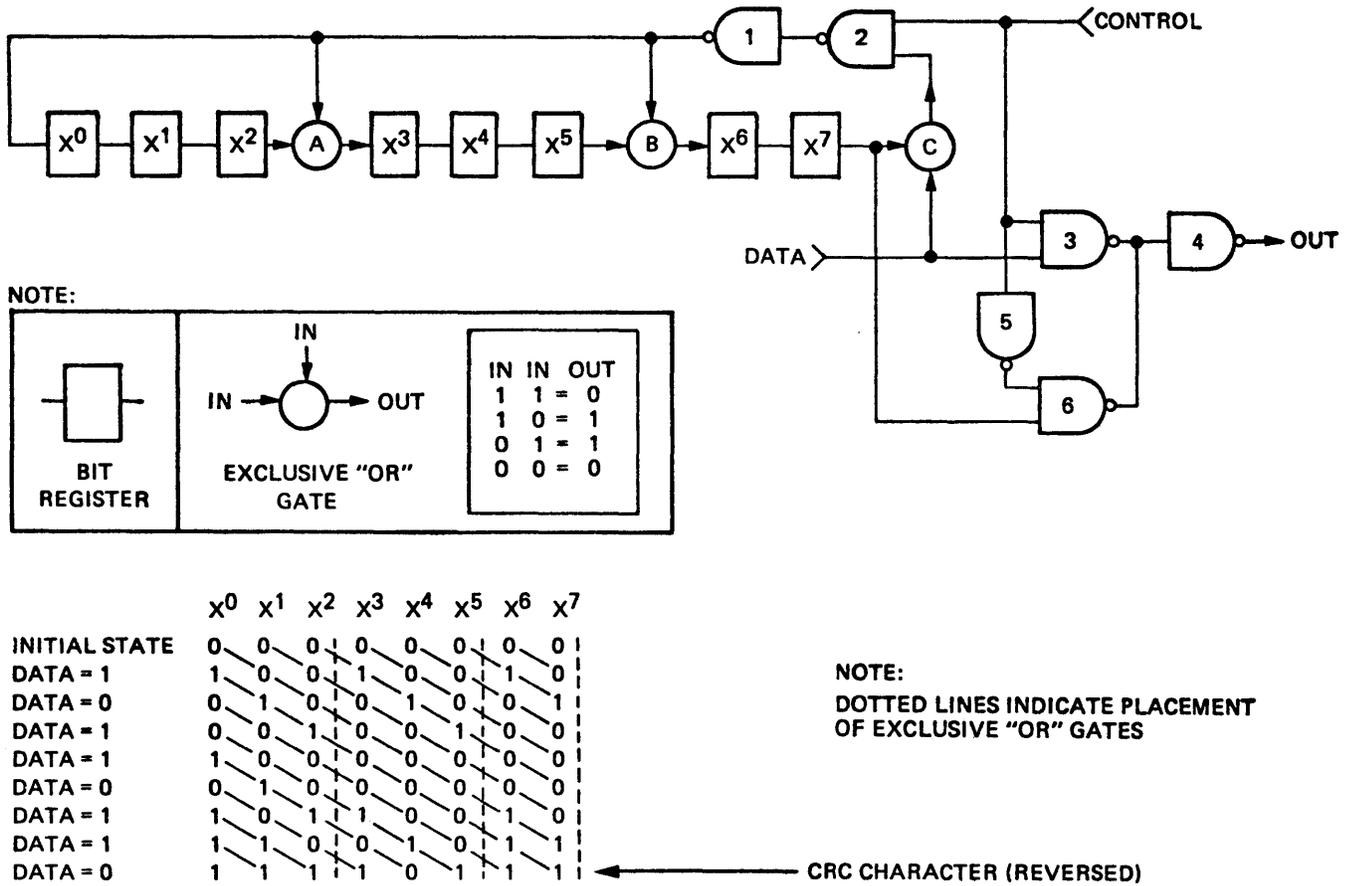

Figure 2-12. Typical CRC Register and Bit Shift Flow
Figure 2-12 is a typical CRC register. The placement of the exclusive OR gates can be determined from the polynomial discussed above.
At the beginning of a write operation the register contains all zeros (see figure 2-12). With the control input high, gates 2 and 3 are enabled and the register is in parallel with the data line. At the same time, the data flows through gates 3 and 4 on the write lines to the unit; data is sensed at one input to exclusive OR Gate C, and the bit shift starts.
The first data bit is a 1-bit and is sensed at one input to exclusive OR Gate C. The other input to OR Gate C, provided by register X(7), is a 0, so the bit passing through Gate C is not inverted and is thus a 1. This 1-bit is inverted by Gate 1 and again by Gate 2 and sets register X(0) to a 1 state. All the registers shift one place to the right. The exclusive OR Gates A and B are controlled by the 1-bit being sensed, so the information contained in registers X(2) and X(5) (both 0 at this time) is inverted while shifting, so that registers X(3) and X(6) now contain a 1-bit. The information now contained in the registers is as shown in the first line under the initial state on the chart in figure 2-12.